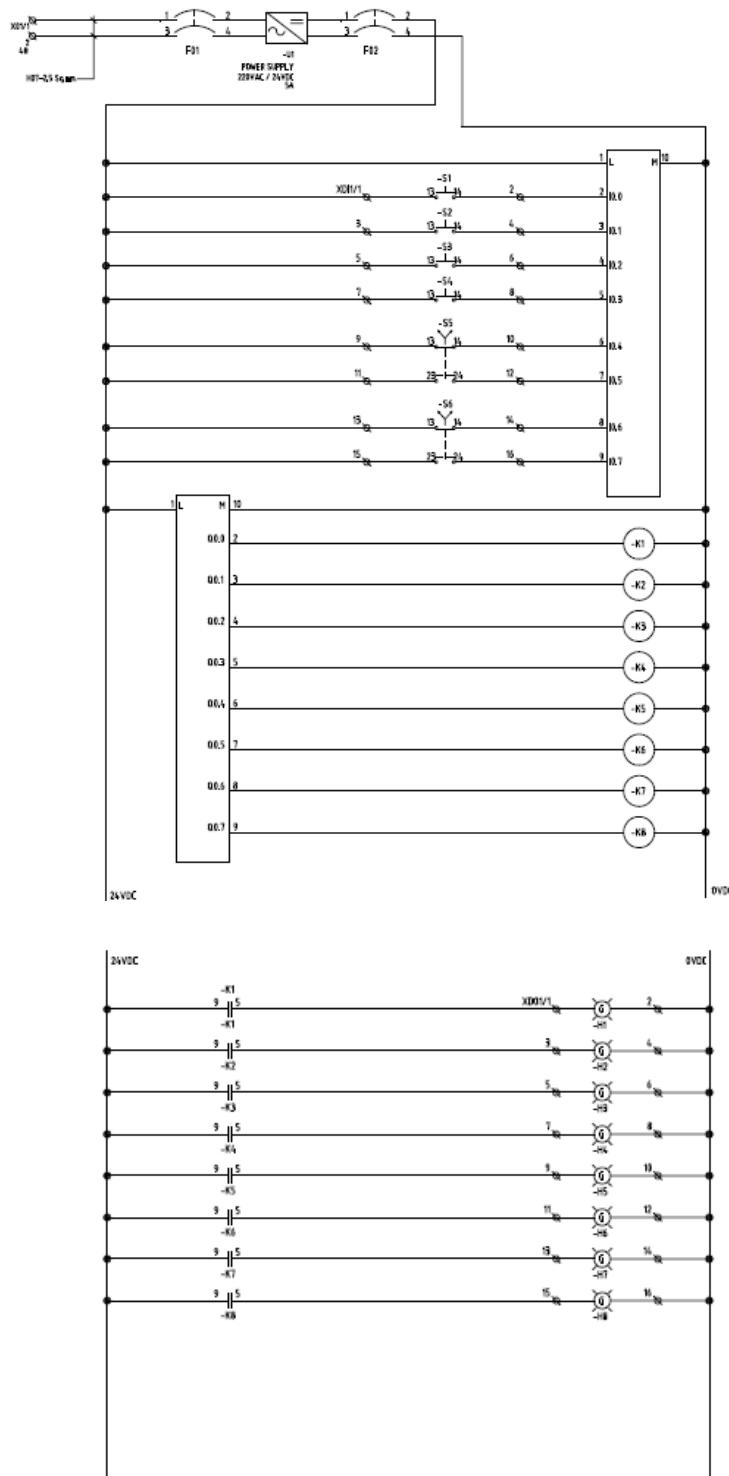

Figure 3.2 Circuit is PLC digital practices.
3. Study the circuit diagram as shown in figure 3.2; try to connect the cable.